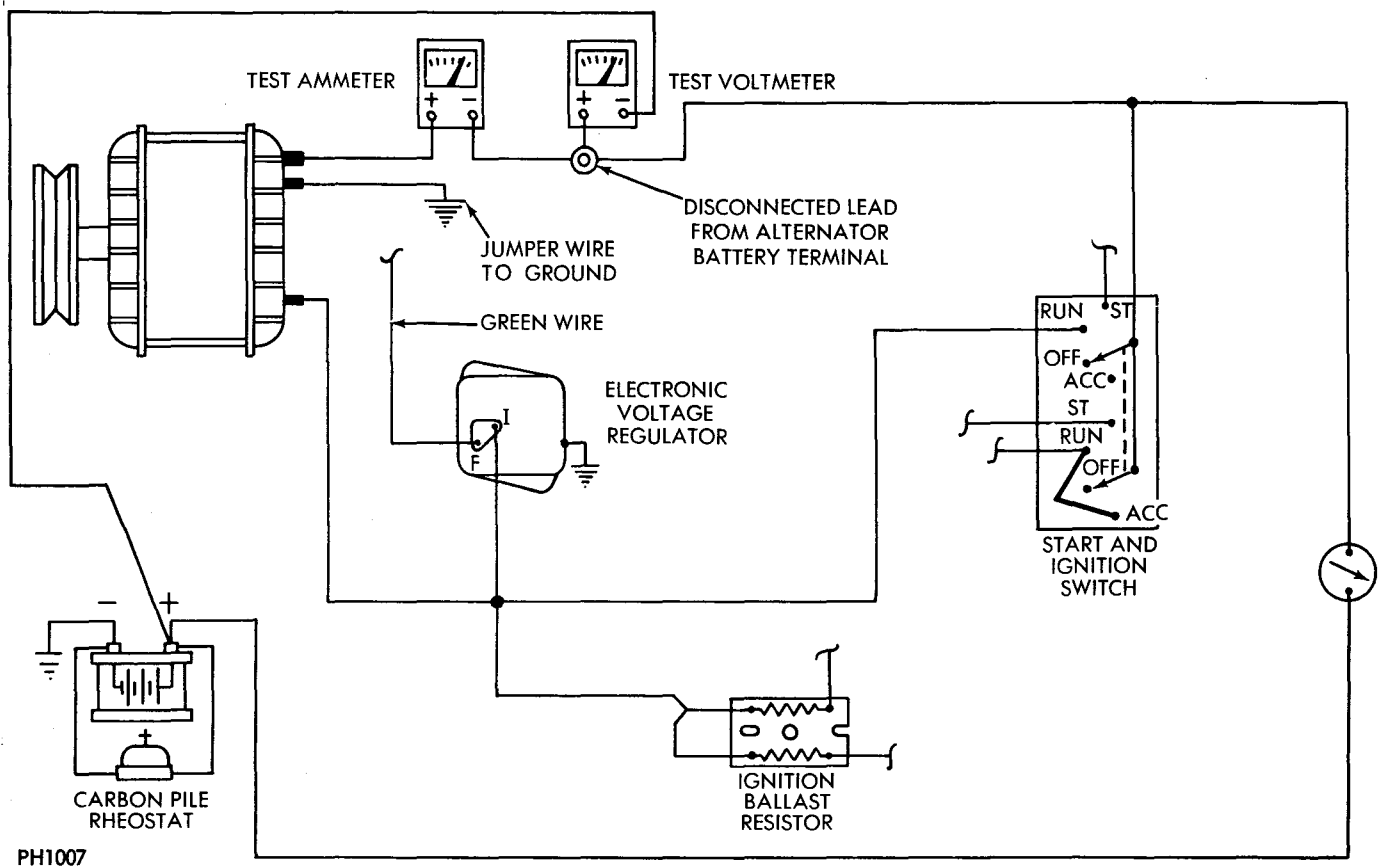

Fig. 4—Charging Circuit Resistance Test
- (1) Disconnect the battery ground cable.
- (2) Disconnect the "Bat" lead at the alternator output terminal.
- (3) Connect a 0-100 ampere scale DC ammeter in series between the alternator "Bat" terminal and the disconnected "Bat" lead wire (Fig. 4).
- (4) Connect the positive lead of a test voltmeter to the disconnected "Bat" lead wire. Connect the negative lead of the test voltmeter to battery positive post.
- (5) Disconnect the green (Regulator) field lead wire from the alternator.
- (6) Connect a "jumper" lead from the alternator field terminal to ground.
- (7) Connect an engine tachometer and reconnect the battery ground cable.
- (8) Connect a variable carbon pile rheostat to the battery terminals. **Be sure the carbon pile is in the "OPEN" or "OFF" position before connecting the leads.**
- (9) Start and operate the engine at idle. **Immediately after starting, reduce engine speed to idle.**
- (10) Adjust the engine speed and carbon pile to maintain 20 amperes flowing in the circuit. Observe the voltmeter reading. The voltmeter reading should not exceed .7 volts. If a higher voltage drop is indicated, inspect, clean and tighten all connections in the charging circuit. A voltage drop test may be performed at each connection to locate the connection with excessive resistance. If the charging circuit resistance tested satisfactorily, reduce engine speed, turn off carbon pile and turn off ignition switch.
- (11) Disconnect battery ground cable.